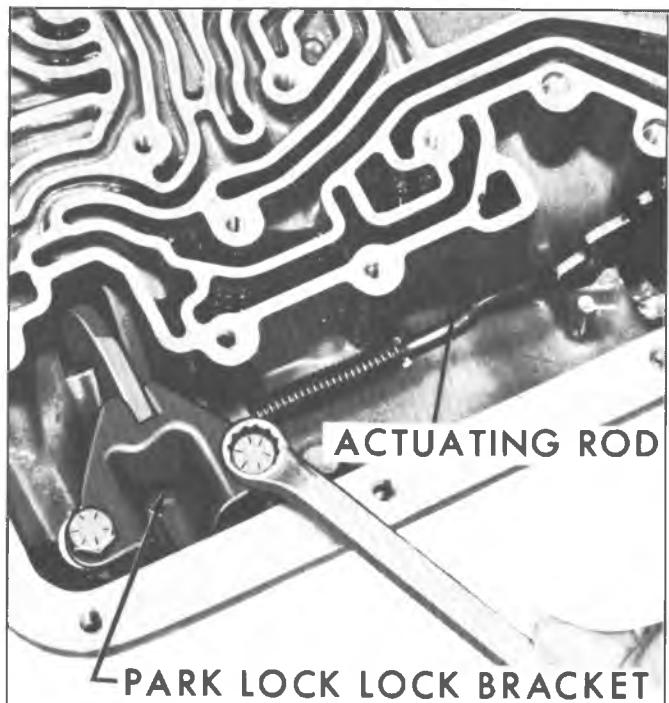

Fig. 22M--Removing Park Lock, Lock Bracket
12. Remove parking lock; lock bracket (fig. 22M). (Special Bolts).